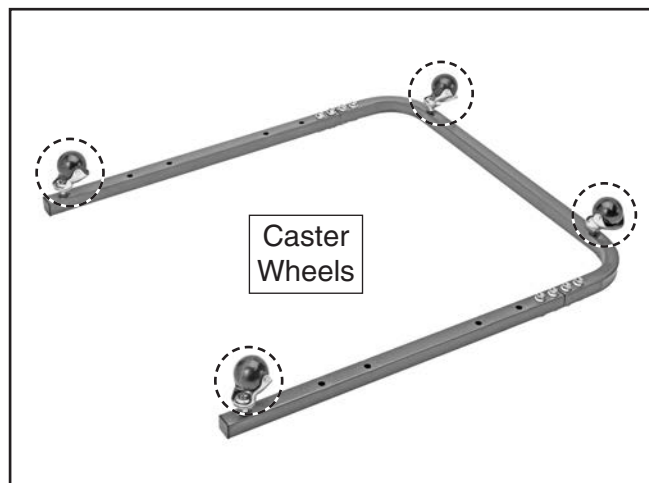

Figure 5. Caster wheels installed on base.
5. Install (1) $\frac{5}{16}$ "-18 hex nut on each of (4) caster wheels, then install wheels on base, as shown in **Figure 5**.